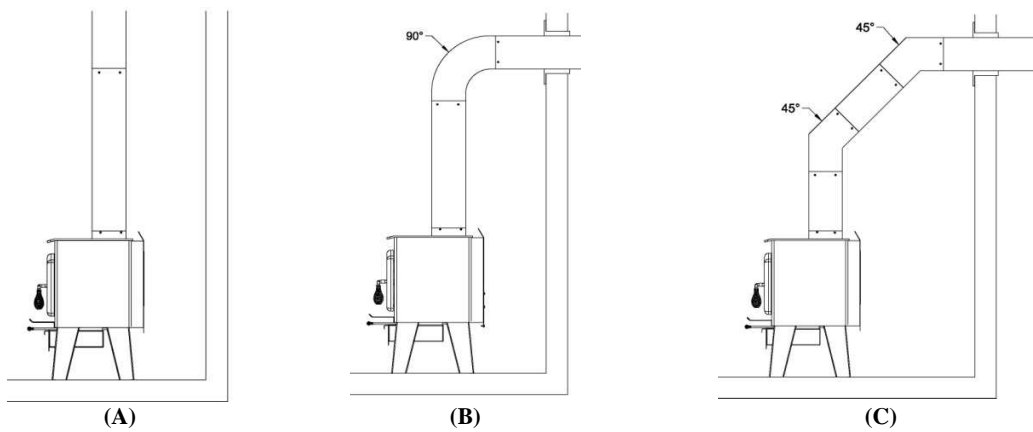

FIGURE 2.4 The use of elbows
- The assembly should be as short and direct as possible between the stove and chimney (See figure 2.4 (A)). The use of two 45 degree elbows (See figure 2.4 (C)) is often preferable to a single 90 degree elbow (See figure 2.4 (B)) because less turbulence is created in the exhaust flow and they result in less horizontal run.